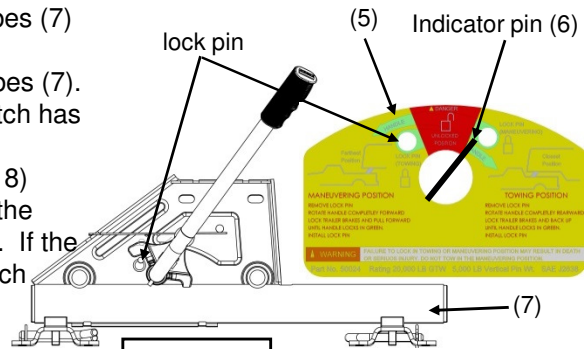

Figure 18
5. Return to truck. Release emergency brake. Manually engage trailer brake and back truck rearward until REESE™ FIFTH Wheel Slider stops near the bolt on foot (Figure 12) and the latch engages in the towing position (see Figure 18).
- B. If Slider does not move, the latch has engaged the tubes (7) and Slider should be engaged in the towing position.
- C. If Slider does move, the latch has not engaged the tubes (7). **DO NOT TOW!** Repeat steps 1 - 6 above until the latch has engaged the tube (7).
- D. Install lock pin completely in towing hole. (see figure 18)
7. Examine the warning label (5). Indicator pin (6) should now be over the green range on the right side of the warning label (5) (see Figure 18). If the indicator (6) pin is over the red range on the warning label (5), the latch has not engaged the tubes (7).